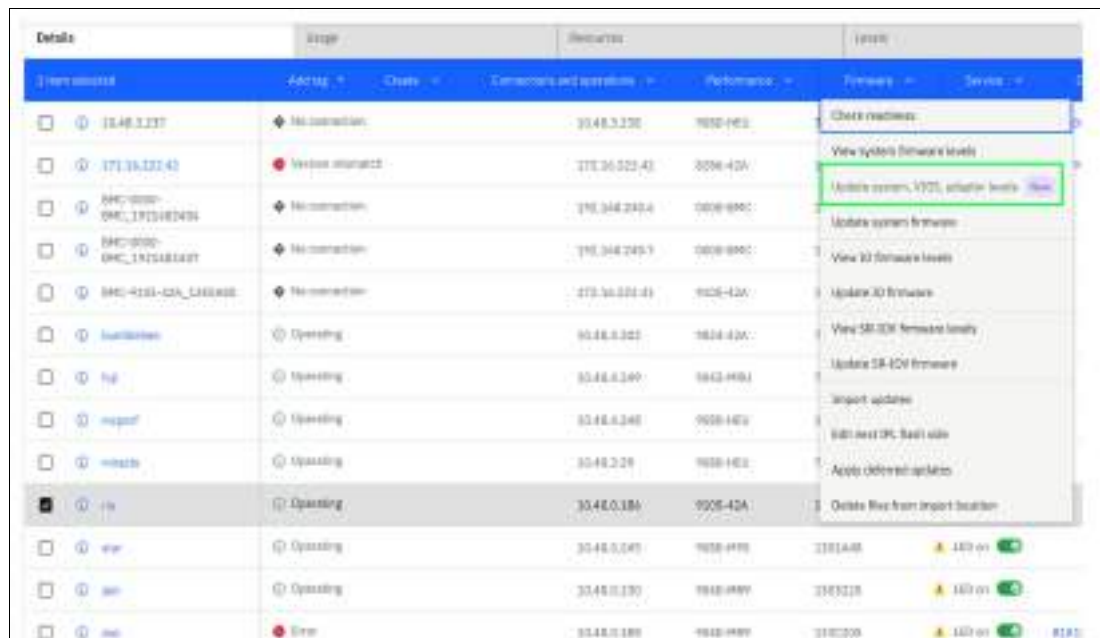

Figure 5-3 Starting the update
1. To start the process, select **Update system** → **VIOS** → **Adapter levels**, as shown in Figure 5-3.